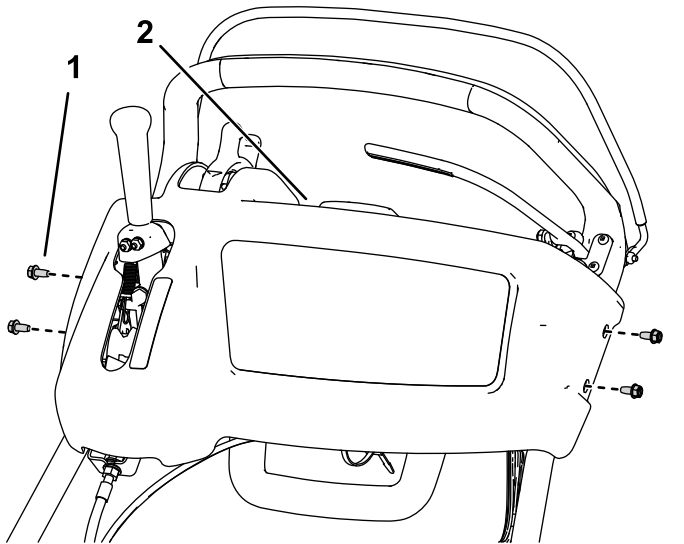

Figure 2
1. Remove the 4 bolts that secure the console cover and remove it (Figure 2).